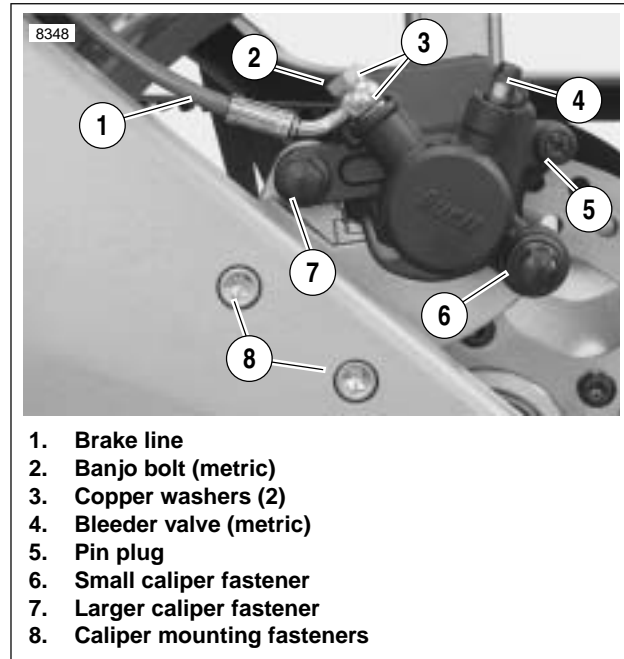

Figure 2-51. Rear Brake Caliper
4. See Figure 2-51. Connect brake line switch connector underneath seat. See D.1 HOSE AND WIRE ROUTING for brake line routing.
3. See Figure 2-51. Remove caliper mounting fasteners (6 and 7).
1. See Figure 2-51. Remove pin plug (5) and pad hanger (metric) to free brake pads.
2. See Figure 2-51. Install caliper assembly on caliper mount. Brake pad surfaces must face rear brake rotor.
- a. Install large caliper screw (7) (metric) tightening to 18-21 ft-lbs (24-28 Nm).
- b. Install small caliper screw (6) (metric) tightening to 14-18 ft-lbs (19-24 Nm).
- c. Install caliper carrier onto swingarm tightening caliper carrier fasteners (8) to 24-26 ft-lbs (33-35 Nm).
3. See Figure 2-51. Connect brake line (1) to caliper using two **new** copper washers (3) and banjo bolt (2) (metric). Tighten to 16-20 ft-lbs (22-27).